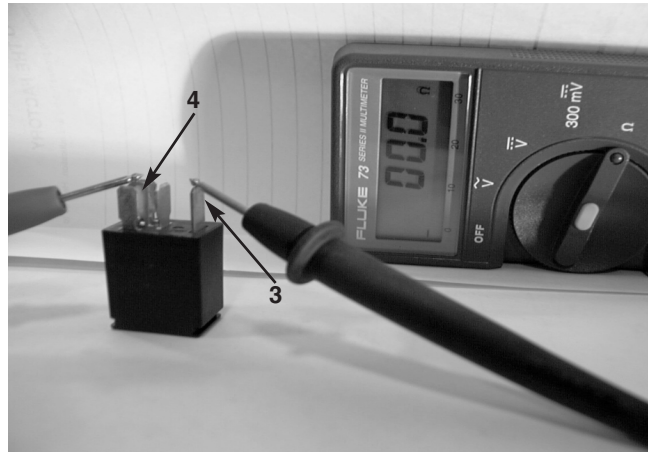

FIGURE 29.
–There will be **CONTINUITY**. See figure 29.